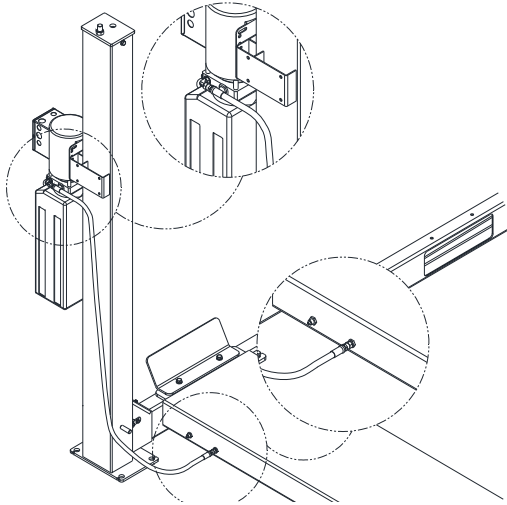

Fig 16 – Supply Line, Front
- 32) For installs on the front of the column (**Fig 16**), route the power unit supply line to the bulkhead shown below. Attach the 90-degree fitting at a slight angle downward and secure the hose to the fitting.